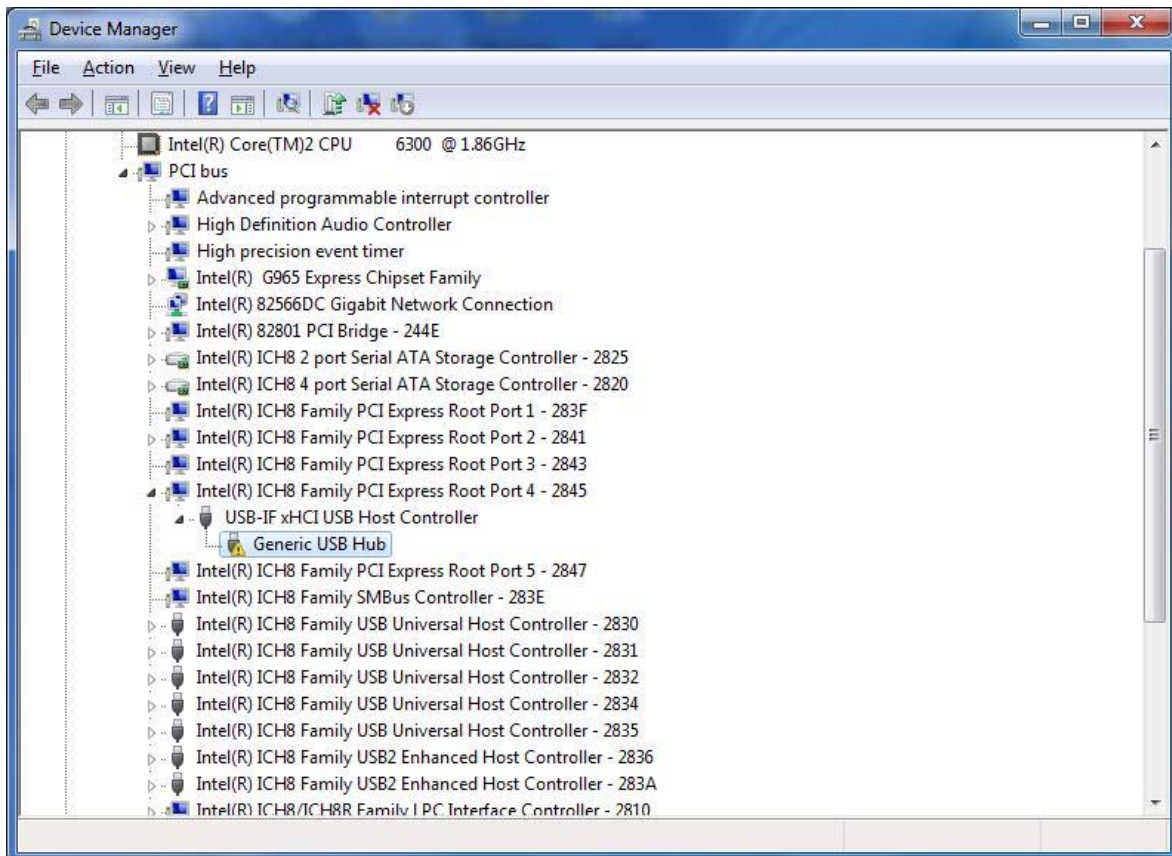

Figure 6.6.1: Standard eXtensible PCI to USB Host Controller Driver
- d. Navigate to the Device Manager and View Devices by connection to confirm proper installation of the USB-IF xHCI USB Host Controller as shown in Figure 6.6.1.